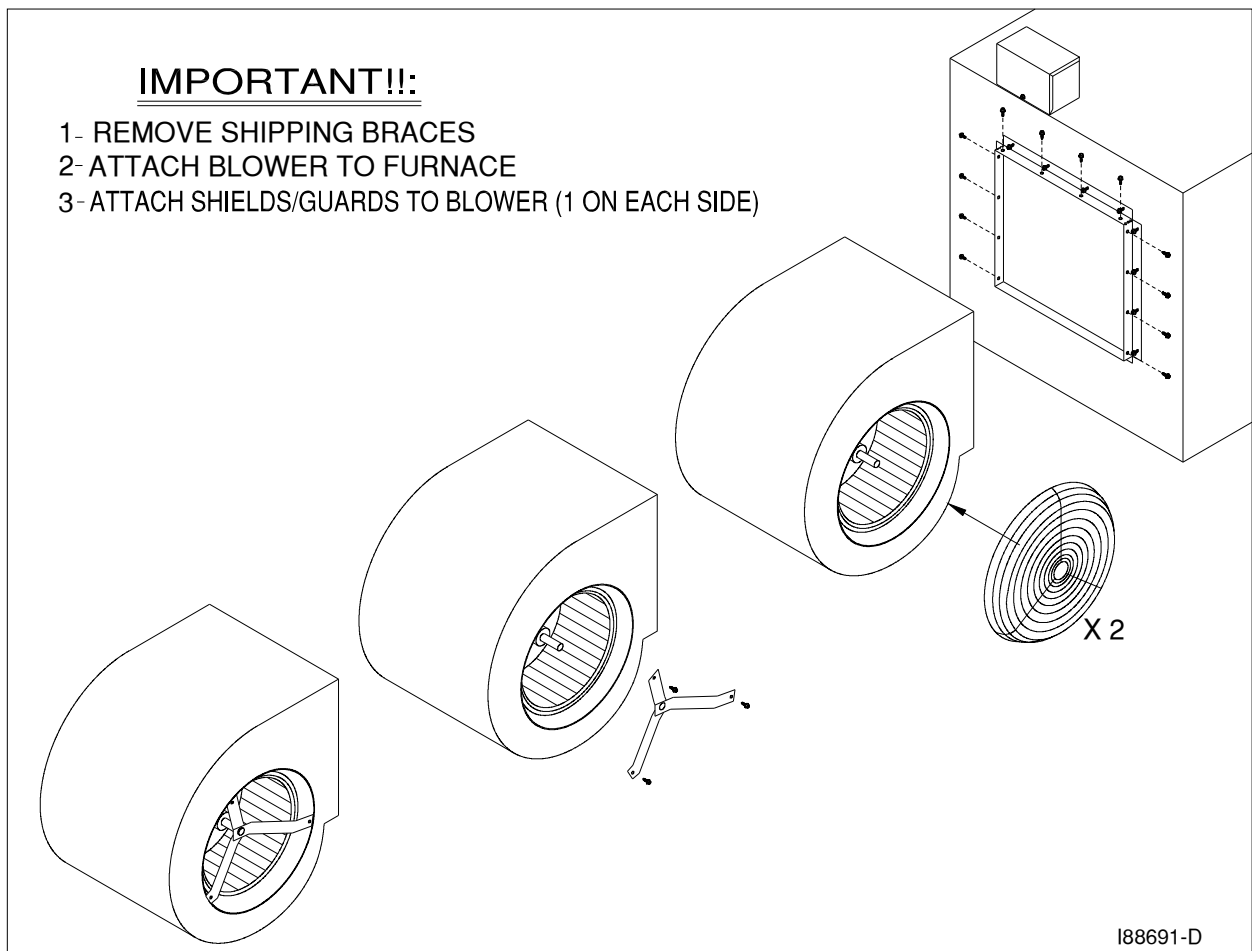

Figure 3B - Installing the Blower Assembly
1. Refer to Figures 3B and 3C.
2. Remove the blower stabilizer brackets as shown in Figure 3B. (These braces, which are installed at the factory, are designed to keep the blower in proper position during shipping. Note that these braces are provided on CB-2500 blower assemblies ONLY; CB-1500 blower assemblies do not require these special shipping braces.)